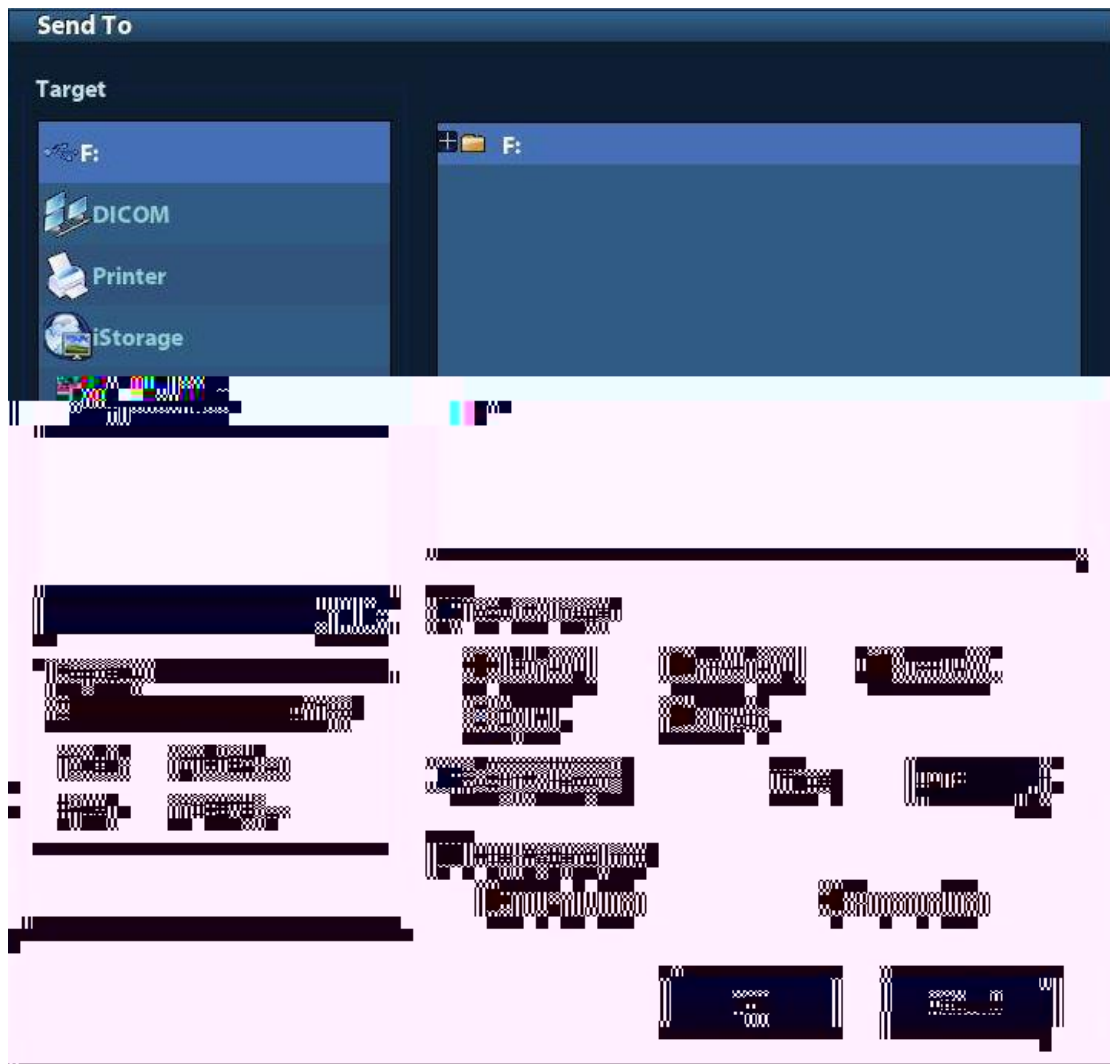

Figure 15 Save as DCM Format
3. Select the Export Image "DCM"; after confirming, click [OK], the selected exam or the image(s) of the exam can be sent to the specified external media with the format of DCM, as shown in Figure 15 Save as DCM Format.